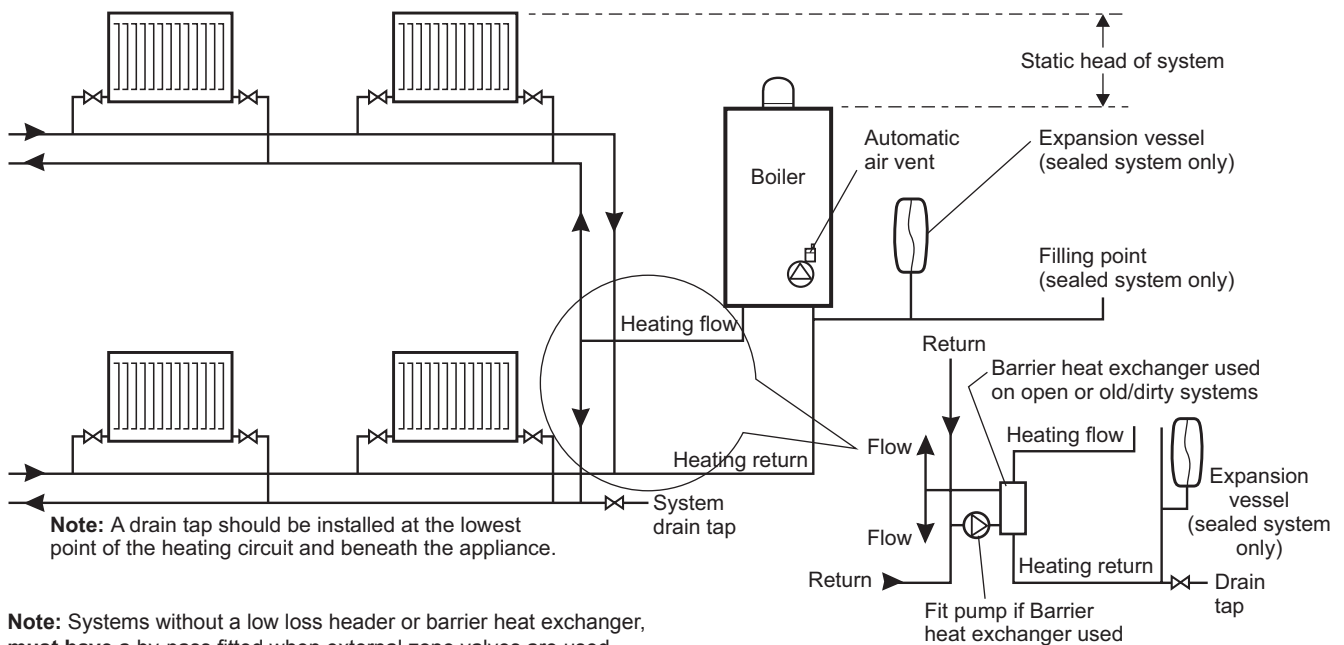

Fig. 4.3
4.8 CENTRAL HEATING SYSTEM - Fig. 4.3
However, if the boiler is to be used with an open central heating system refer to Fig. 4.3 and use a barrier heat exchanger (i.e. separates the boiler primary circuit from the open heating circuit). This will also ensure the boiler heat exchanger is protected from an old/dirty system.
Sealed system volume - An expansion vessel **is not** incorporated into the boiler. An expansion vessel **must be** fitted in the position shown in Fig. 4.3. To check correct operation of the expansion vessel the system pressure should not be more than 3.5 bar when the system is at maximum operating temperature (for further guidance refer to BS 7074:1), For example an 8 litre expansion vessel is suitable for a sealed system of 80 litres.
The system design pressure (cold) should be set to 1.0 bar. This pressure is equivalent to a static head (see Fig. 4.3) of 10.2 metres of water.
It is essential that the central heating system is thoroughly cleaned and flushed before fitting an Alpha Pro Tec Plus boiler. Failure to do so will invalidate the warranty. If this is difficult because the system is old/dirty refer to Section 4.8, Fig. 4.3 gives consideration to using a barrier heat exchanger.